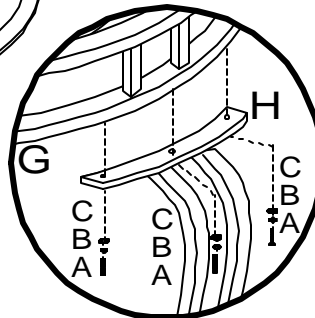

FIGURE 1
Attach all 4 Legs (H) to Table Base (G) using 2 Allen Bolts (A), 2 Spring Washers (B) and 2 Metal Washers (C) per each leg. Tighten All Bolts. See Figure 1.